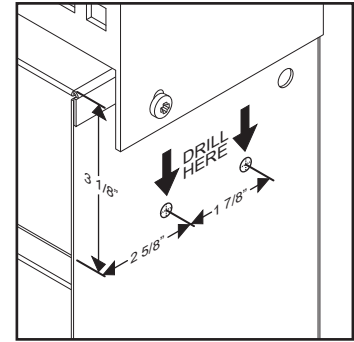

FIGURE 5
1. On the right hand side of the control box, measure 2-5/8" in from the front of the control box and down 3-1/8" from the top of the control box and mark. Center punch where both measurements meet. From that mark, measure towards the back of the control box 1-7/8". Mark and center punch. Using a 1/4" drill bit, drill both holes. SEE FIGURE 5.